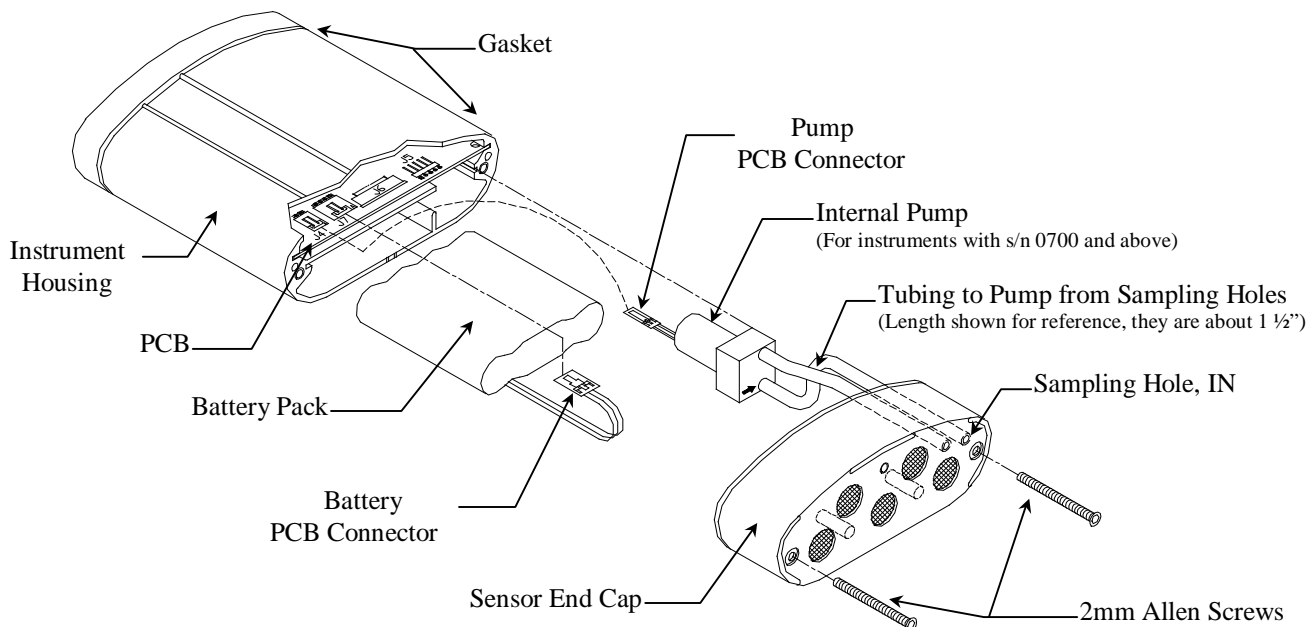

Figure 9: Replacing Battery Pack and Internal Pump
- Press the select button. The instrument samples the blocked flow condition for 10 seconds and then stores the reading. See figure 9, for location of sampling holes.
Connect the new battery pack to the PCB and slide the battery pack into the instrument housing. See figure 9.
Connect the new pump to the PCB and tubing. Pump IN port is indicated by arrow. See figure 9.